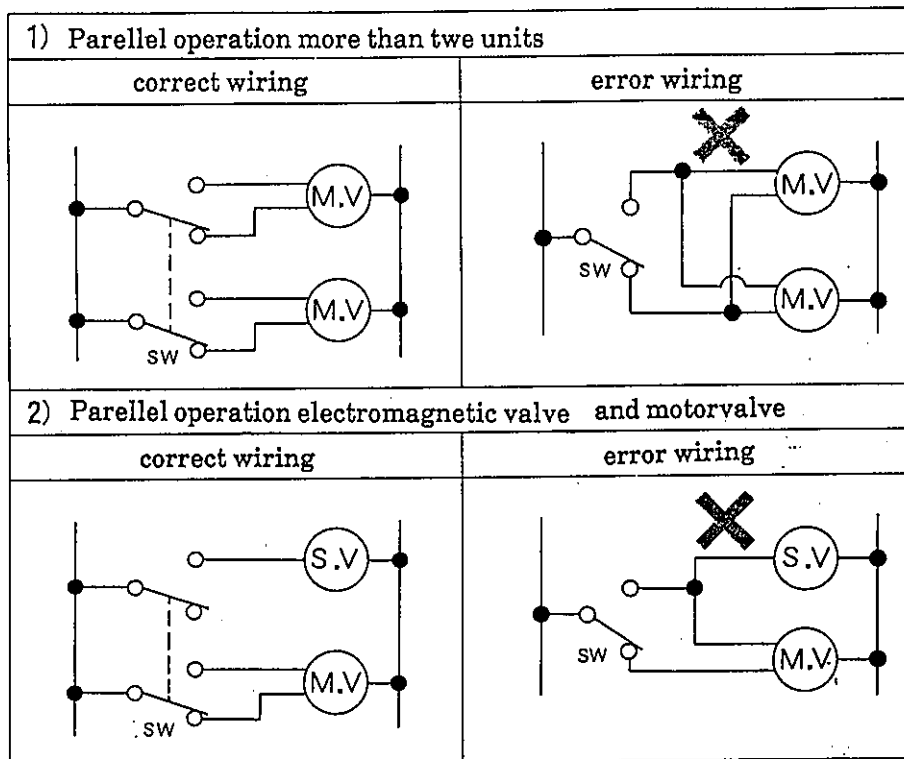

Fig 6
- (1) See to it that the input voltage is within the range of rated voltage $\pm 10\%$. The valve can be operated both at 50 Hz and 60 Hz.
- (2) Make connection as shown in the "Connection Diagram" attached to the bonnet.
- (3) When using more than 2 pieces of valves, use relays, etc, to prevent parallel operation. (Fig. 6)
- (4) Refrain from using the red and black lead wire select switch, likely to cause the input of signals simultaneously.
- (5) Give slack on the lead wire on the bottom, and connect the lead wire so it is not under tension.
- (6) Cores of cabtyre cables (yellow and green) should be cut off and insulated when signal connection is not used.